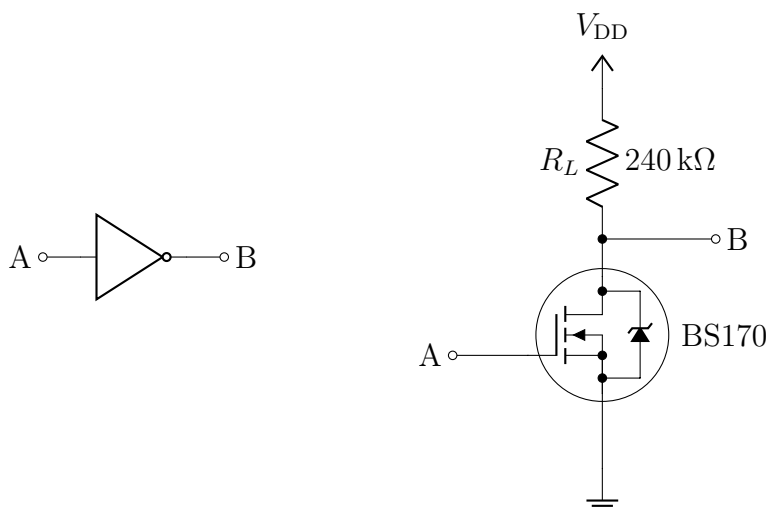

Figure 5: Inverter Gate Symbol and Discrete Diode Implementation
The Inverter circuit shown in Fig. 5 from the Discrete Digital Circuits laboratory is often referred to as a Buffer circuit. One of the benefits of using a MOSFET between stages of a system is that the MOSFET has a very high input resistance and a very low output resistance. A high input resistance means that not much current enters into the device; a low output resistance means that the device does not affect the loading of the system it is attached to. A MOSFET Buffer, as in Lab 6, has both of these advantages. Hence, in a system, it can “buffer” the stages from one another so that the stages act more or less independently of one another.
1. For the MOSFET Inverter shown in Fig. 5, devise a way to determine the input resistance and the output resistance of the circuit (note that the input and output resistances can be modeled as the Thévenin equivalent resistances at the input and output terminals, respectively).